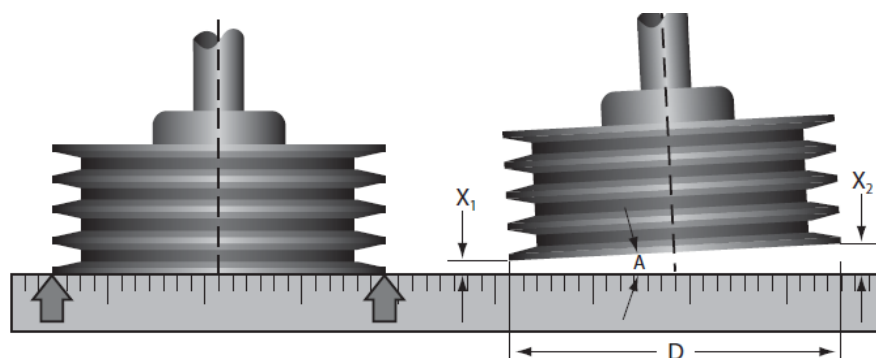

Figure 8-3 Measuring Angular Misalignment
12. Check the sheave alignment, refer to Sheave Set Alignment Figure 8-3.